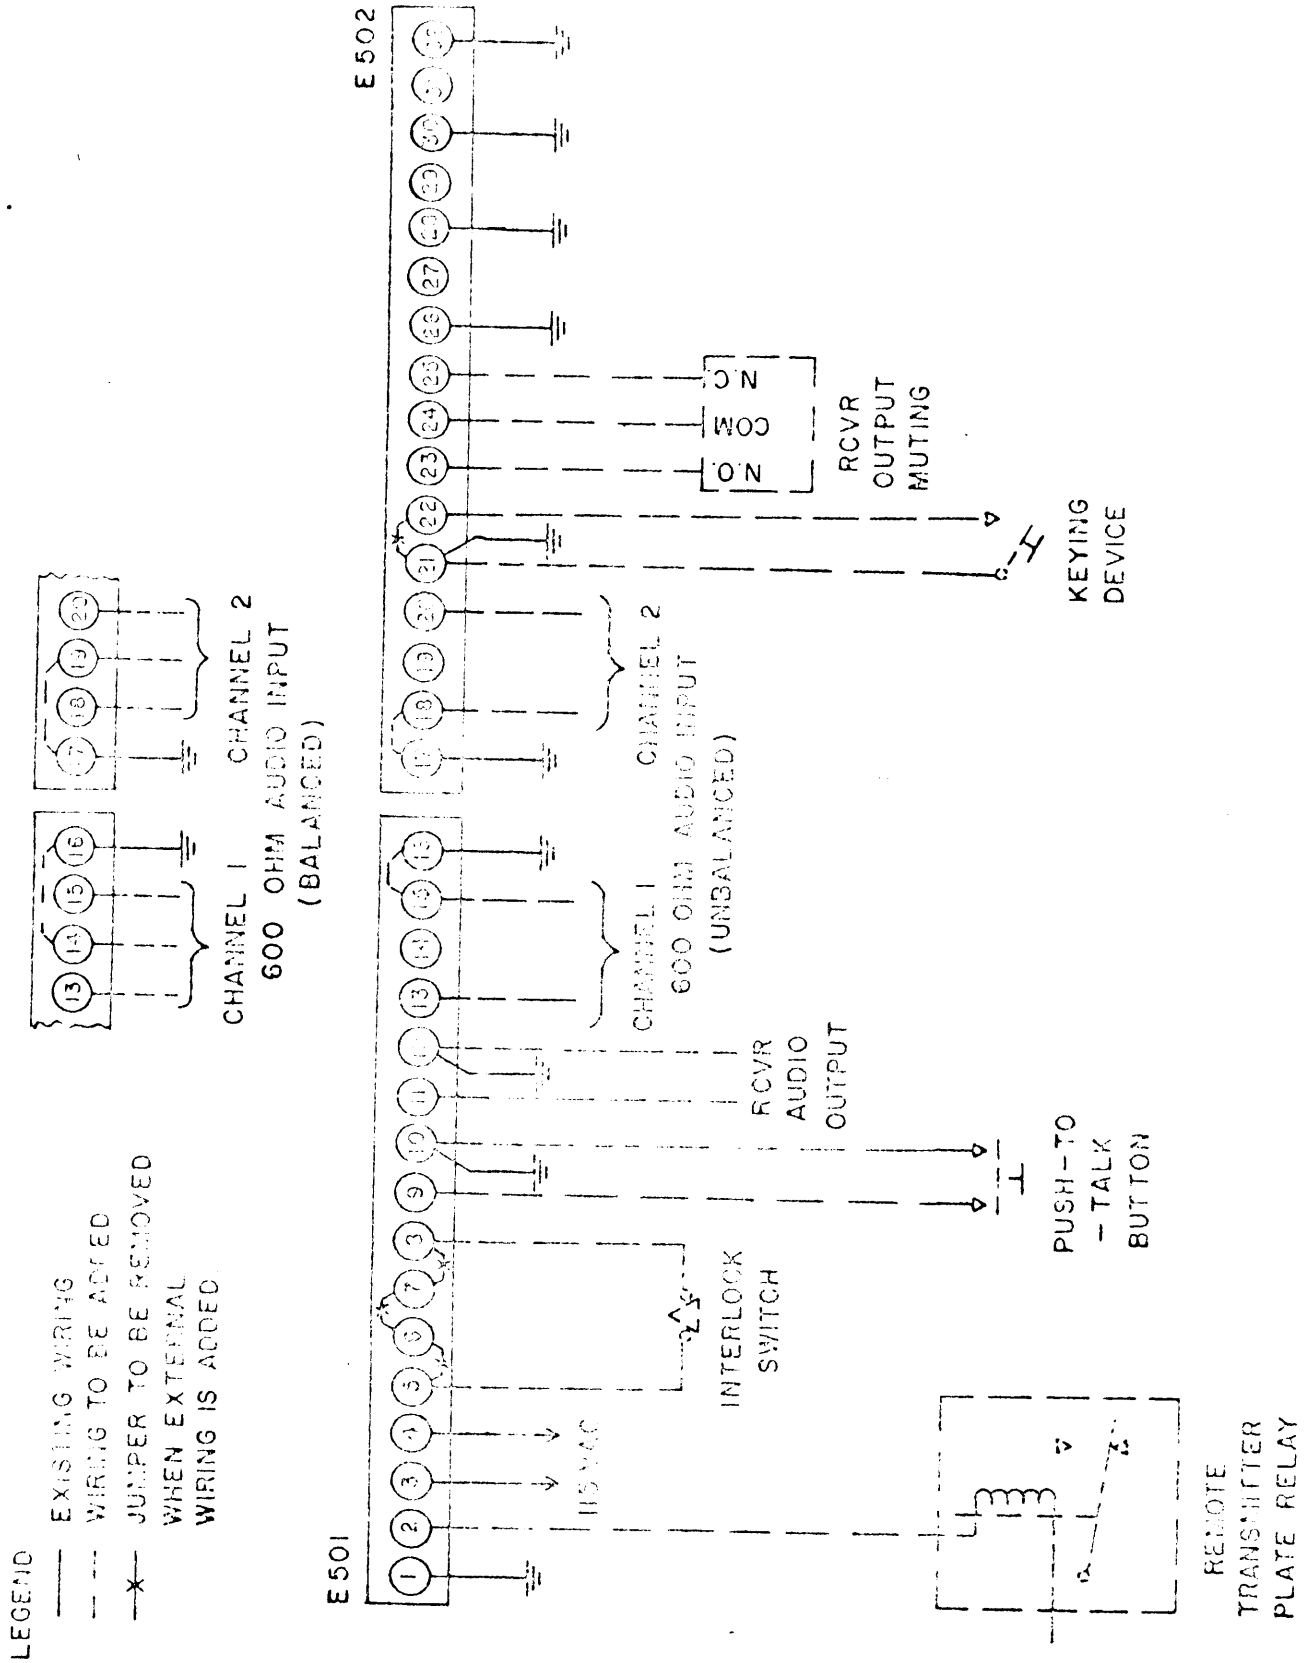

Figure 2-3. Connection Diagram, External Equipment
j. Antenna Connection - Refer to figure 2-3 for interconnecting cable installation between the ATS-2 Antenna Tuning System components and the antenna.